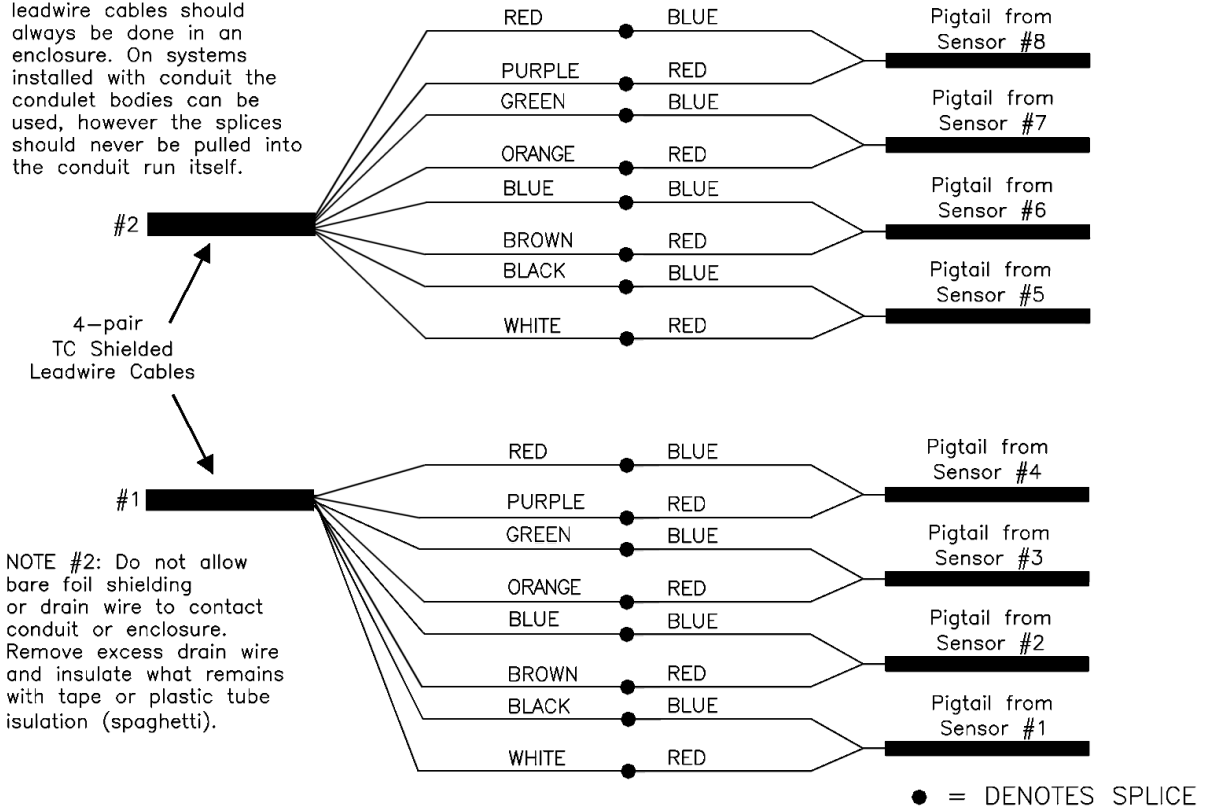

Figure 10. Splicing
**4.5.1. Wire-To-Wire Splicing:** Wire-to-wire splicing should be done inside a splice box or in a conduit fitting. A splicing enclosure will provide mechanical protection from collateral damage related to moving machinery, or vigorous housekeeping. The splice is more vulnerable to environmental effects and physical damage than the remainder of the wire run, which is still in its jacket. A splice enclosure also keeps them free of dirt and moisture. Splicing enclosures should be placed in an easily accessible location and have a proper dust tight cover. (See figures 10 & 11).
- 4.5.3.7. Pair up the wires color to color and twist them together as in Figure 10. If more than 3 wires are to be spliced under the same crimp, you must strip off the insulation before twisting.